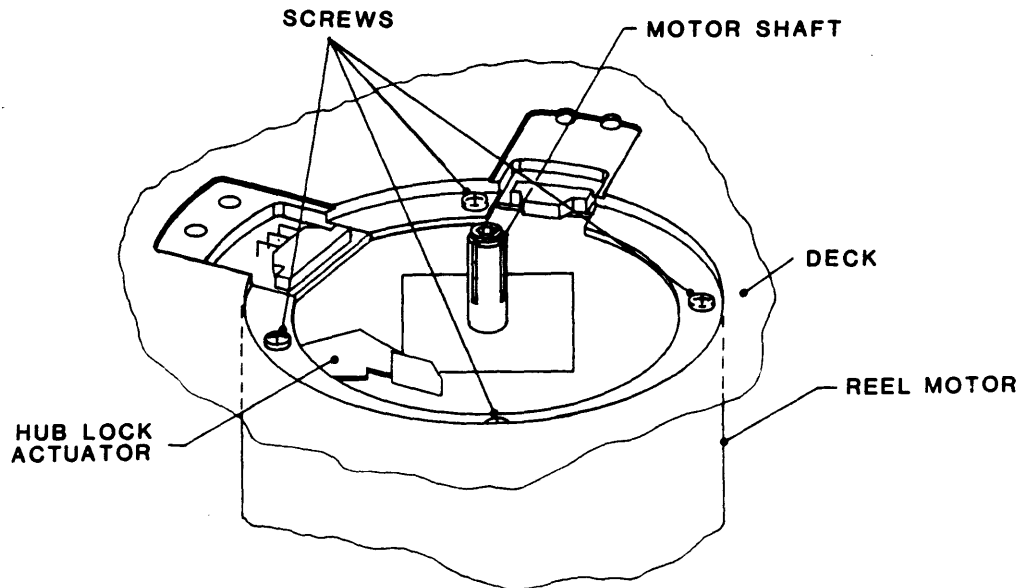

Figure 4-26 Supply Reel Motor Assembly
4.3.29 REEL MOTOR ASSEMBLY (Figure 4-26)